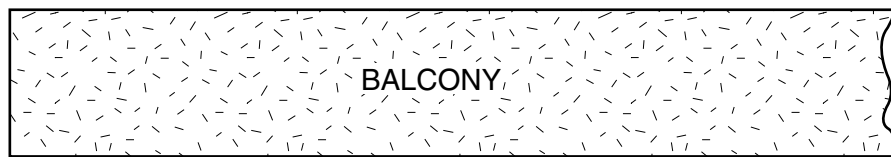

Fig. 6.2
Fig. 6.2 on page 11, shows incomplete details of the fixing device for the parasols. Tube A is attached to the  $\text{Ø}60$  guard rail B. Parasol shaft C is inserted into the  $\text{Ø}30$  tube A and secured at an appropriate height. The parasol can be pivoted from  $90^\circ$  (vertical) to  $120^\circ$  depending on the position of the sun.
- (b) allowing tube A to pivot and be fixed at any position from  $90^\circ$  to  $120^\circ$  as shown in Fig. 6.2;